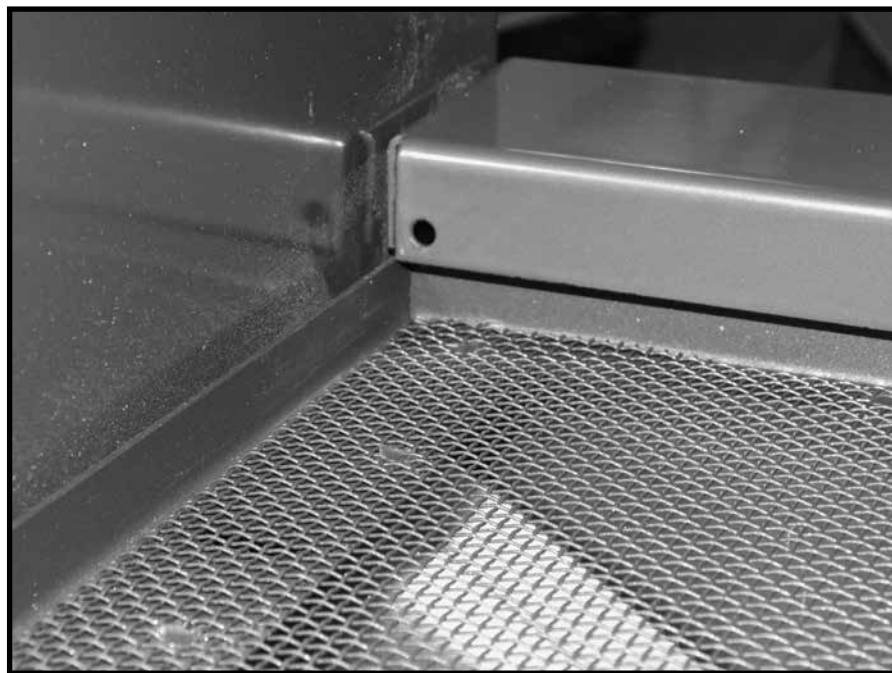

Figure 17: Edge panels.
17. Place the two porcelain edge panels into the fireplace with the narrow edge facing the center of the fireplace (Figure 17 and Figure 18). The edge panels rest in place and are not screwed down.